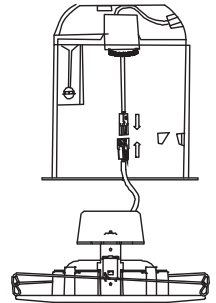

Figure2
- STEP3:** Plug the connector of the retrofit kit into the connector of the socket adapter assembly. (Figure 2)